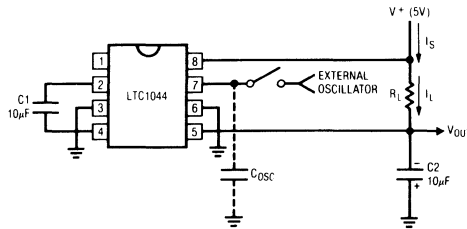

Figure 1
**TYPICAL PERFORMANCE CHARACTERISTICS** (Using Test Circuit Shown in Figure 1)